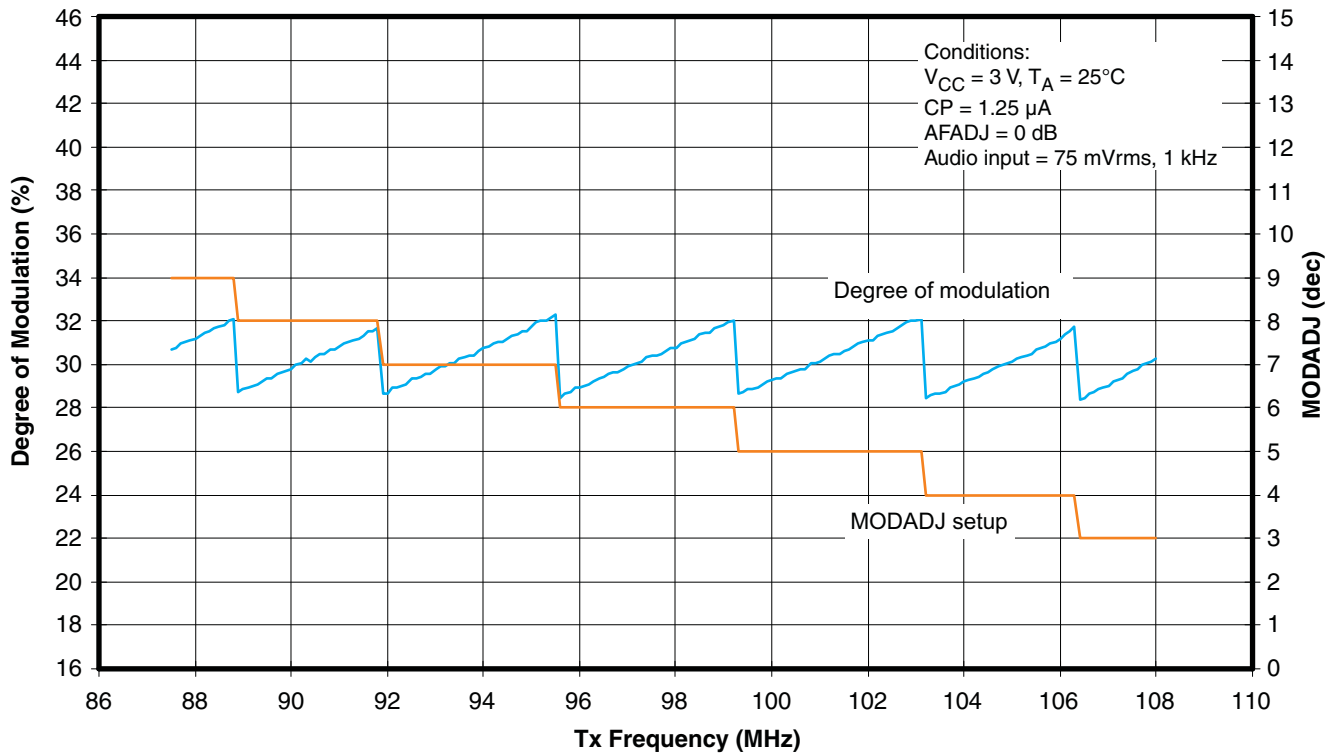
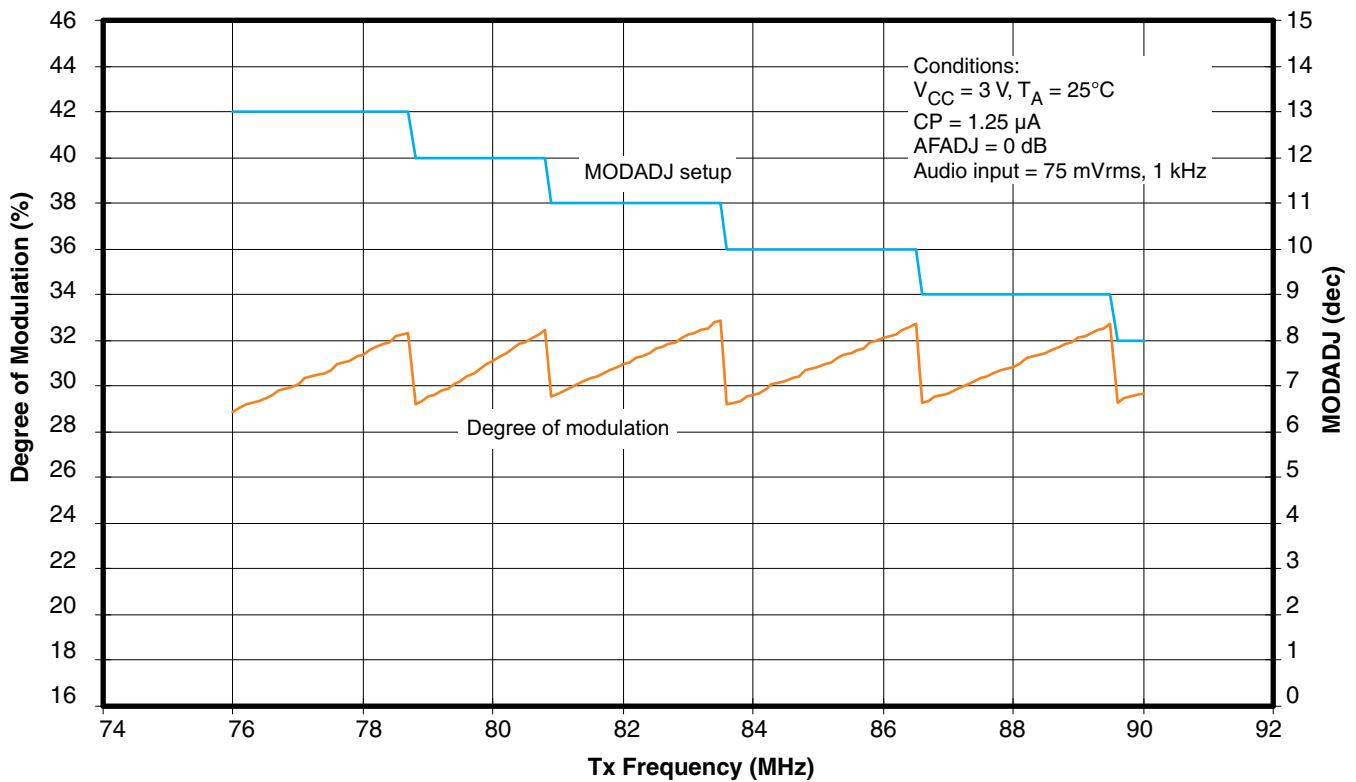

Figure 33. Tx Modulation Characteristics (US/EU Band)
Figure 34. Tx Modulation Characteristics (Japan Band)
(1) These settings are to obtain audio modulation level of 22.5 kHzdev (30% modulation) and pilot level of 7.5 kHzdev (10% modulation) when audio input level = 75 mVrms and audio input frequency = 400 Hz.
(2) An adequate level for each Tx frequency should be selected for MODADJ. See Figure 33 and Figure 34.
(3) AFADJ should be adjusted to maintain audio level × adjust level (dB) less than 250 mVrms. For example, when audio input level for 100% modulation is 500 mVrms, AFADJ should be –6 dB (AFADJ[2:1] = 001).